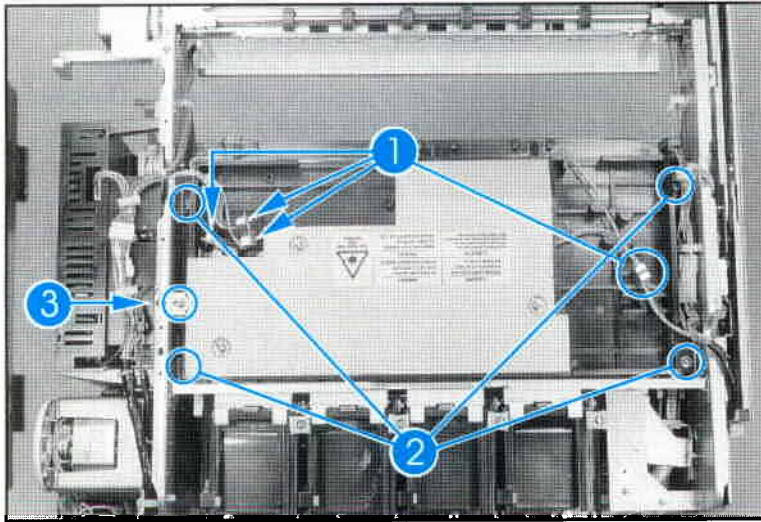

Figure 6-31 Laser/Scanner Removal
2. Remove (4) connectors as shown in Figure 6-31, item 1.
3. Remove (4) M3X8 screws that hold the Laser/Scanner assembly (Figure 6-31, item 2.)
4. Remove (1) M3X4 grounding tab as shown in Figure 6-31, item 3.